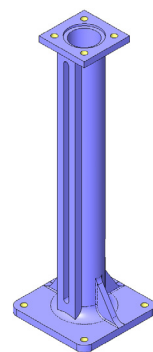

Fig.5
- Straight floor stands (fig. 5)